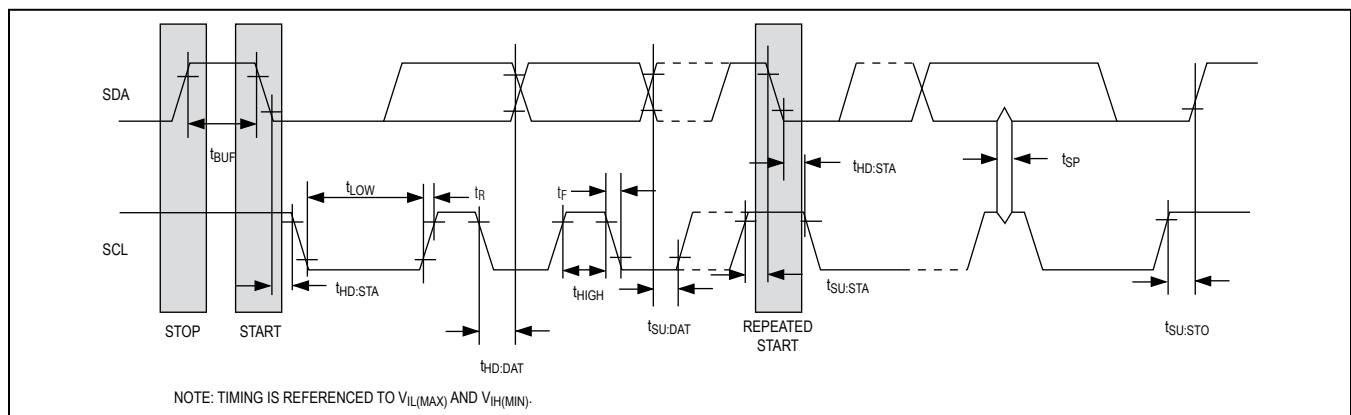

Figure 3. 2-Wire Timing Diagram
**Bit Write:** Transitions of SDA must occur during the low state of SCL. The data on SDA must remain valid and unchanged during the entire high pulse of SCL plus the setup and hold time requirements (see Figure 3). Data is shifted into the device during the rising edge of the SCL.
**Bit Read:** At the end of a write operation, the master must release the SDA bus line for the proper amount of setup time (see Figure 3) before the next rising edge of SCL during a bit read. The device shifts out each bit of data on SDA at the falling edge of the previous SCL pulse, and the data bit is valid at the rising edge of the current SCL pulse. Remember that the master generates all SCL clock pulses including when it is reading bits from the slave.
**Acknowledgment (ACK and NACK):** An Acknowledgment (ACK) or Not Acknowledge (NACK) is always the 9th bit transmitted during a byte transfer. The device receiving data (the master during a read or the slave during a write operation) performs an ACK by transmitting a zero during the 9th bit. A device performs a NACK by transmitting a one during the 9th bit. Timing (Figure 3) for the ACK and NACK is identical to all other bit writes. An ACK is the acknowledgment that the device is properly receiving data. A NACK is used to terminate a read sequence or as an indication that the device is not receiving data.